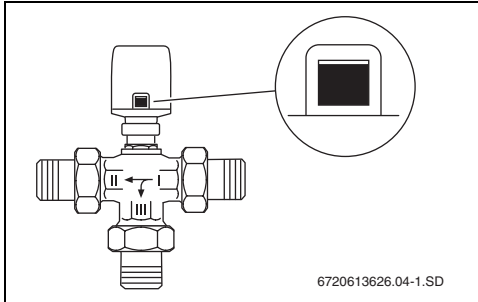

Fig. 5 Position indicator when valve is energised.
- The position indicator is fully visible (→ Fig. 5).